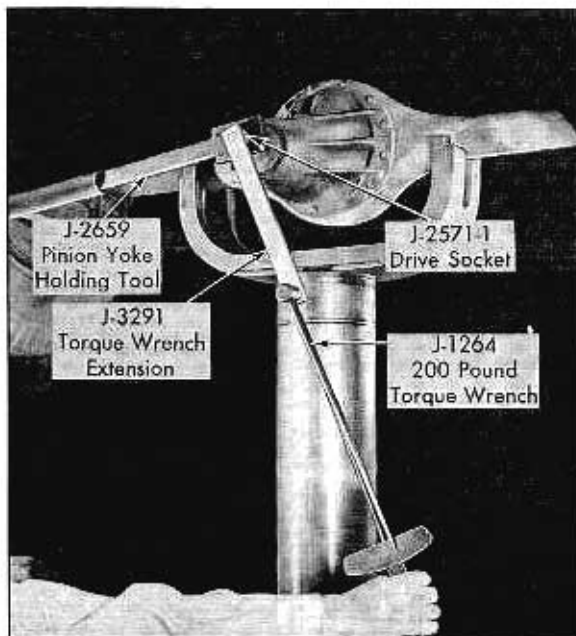

Fig. 8-7 Tightening Pinion Nut
**NOTE:** In cases where a 300 lb. torque wrench is not available, a Torque Wrench Extension, Tool No. J-3291, may be used with a 200 pound torque wrench, Tool no. J-1264, or any standard 200 pound torque wrench, Fig. 8-7. A table is given below for determining actual torque load on pinion nut for any length of torque wrench used, measured from center of grip to center of drive.